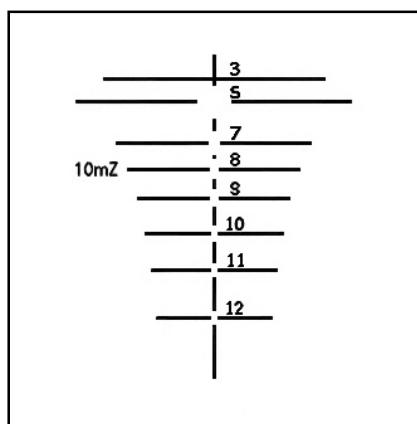

Figure G-50. Reticle stadia lines.
e. **Using Reticle to Estimate Range.** The vertical gap in the stadia lines is for estimating ranges. The height of gaps in the stadia lines represents a 60-inch high target at the range noted; for example, 5, 7, 8, 9, 10, 11, or 1,200 meters (Figure G-50).